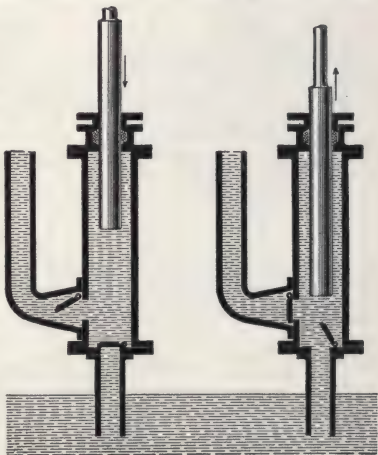

FIG. 28
**74. Plunger Pumps.**—When force pumps are used to convey water to great heights or to force water against heavy pressures, the great pressure of the water makes it extremely difficult to keep the water from leaking past the piston, and the constant repairing and renewal of the piston packing becomes a nuisance and involves serious expense. To obviate this drawback, plunger pumps have been designed, one of which is shown diagrammatically in Fig. 28. The action